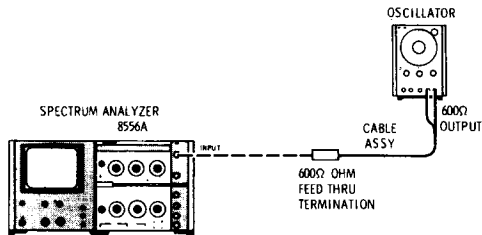

Figure 4-11. Noise Sidebands Test Setup
- 1. Connect equipment as shown in Figure 4-11, connecting the Oscillator to analyzer INPUT through the 600 Ohm Feed Thru Termination.